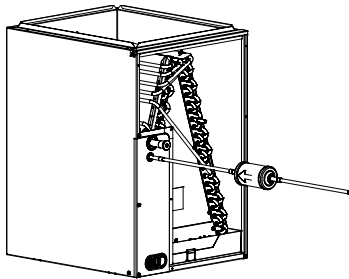

Fig. 3 – Liquid Line Filter Drier
**IMPORTANT:** Installation of filter drier in liquid line is required. Refer to Fig. 3 and install filter drier as follows: